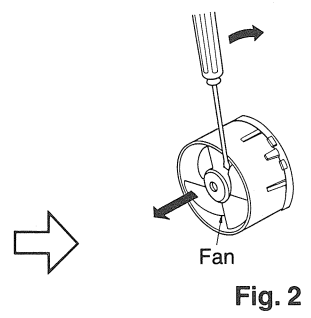

Fig. 2
2. Insert a screwdriver at the root of the fan (shown in Fig. 2).